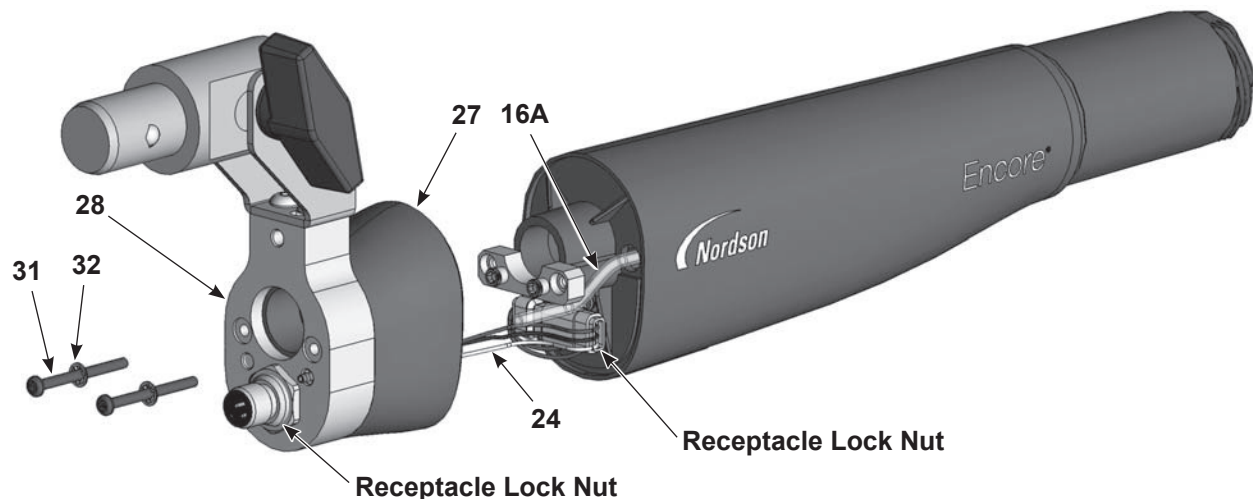

Figure 16 Gun Disassembly - Powder Tube Replacement
3. See Figure 16. Unscrew and remove the two Philips head screws (31) and internal-toothed lock washers (32) from the end cap (28).
- c. See Figure 16. Unscrew the lock nut from the receptacle, then remove the receptacle and harness from the end cap.
17. See Figure 16. Install the end cap and rear gun body assembly on the gun body, making sure not to pinch the harness wires.